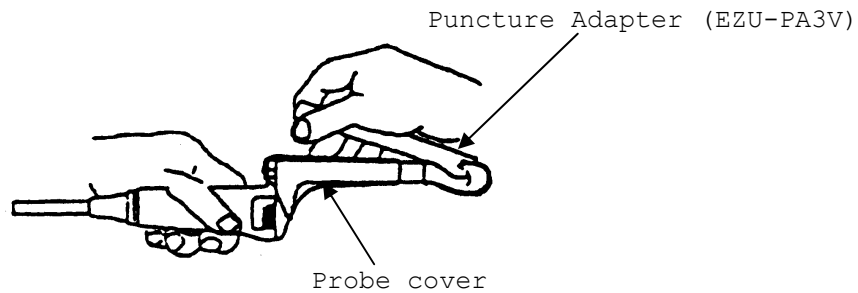

Fig.12
- 2) Put the picks of the Puncture Adapter to the grooves on the tip of the probe. (See Fig.12.)